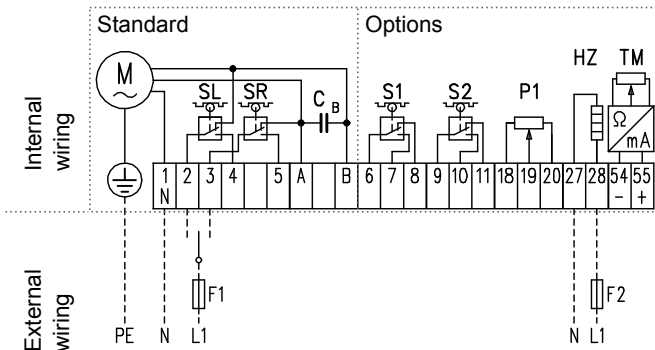

Fig. 5.6: Schematic diagram for alternating current
- Equip the actuator with an electric fuse protection suitable for the power cord used (see Fig. 5.6).